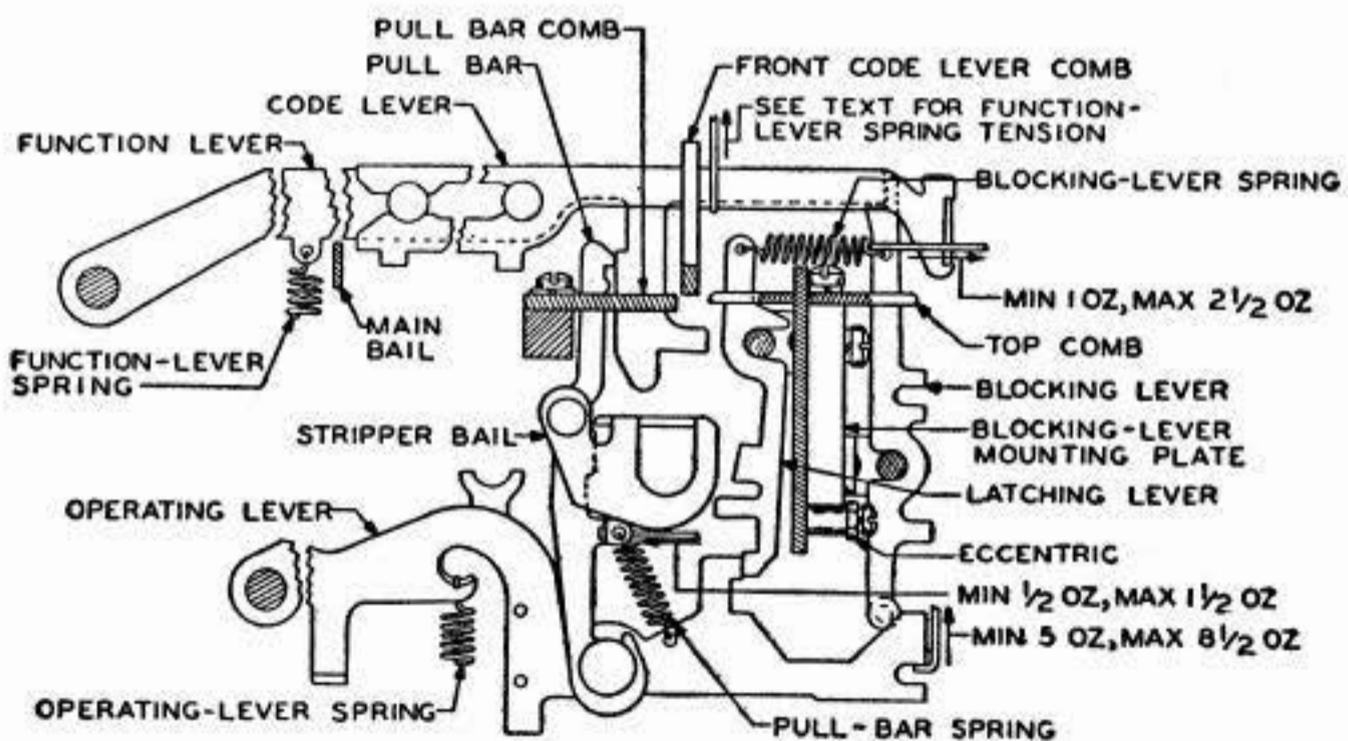

Fig 11
3.17 **Pullbar Comb:** The pullbar comb should be so located that there is no bind between the pullbars and the comb. **Fig 11**
3.18 **Pullbar Spring:** It should require Min 1/2 oz, Max 1-1/2 oz, to start each pullbar moving. **Fig 11**
(1) Rotate the main shaft until the function levers are in their extreme upper position and manually unlatch all pullbars.
(2) Apply the push end of an 8-oz scale to each pullbar at the spring lug and push horizontally against the spring lug.
3.19 **Blocking and Latching-Lever Spring:** It should require Min 1 oz, Max 2-1/2 oz, to start the blocking lever moving. **Fig 11**
3.30 **Blocking and Latching-Lever Assembly (Horizontal Adjustment):** The sides of the blocking levers should be as close as possible to their associated codelevers without exerting any pressure on them and the latching levers should be in line with and riding on the latching extensions of the operating levers. Fig 11